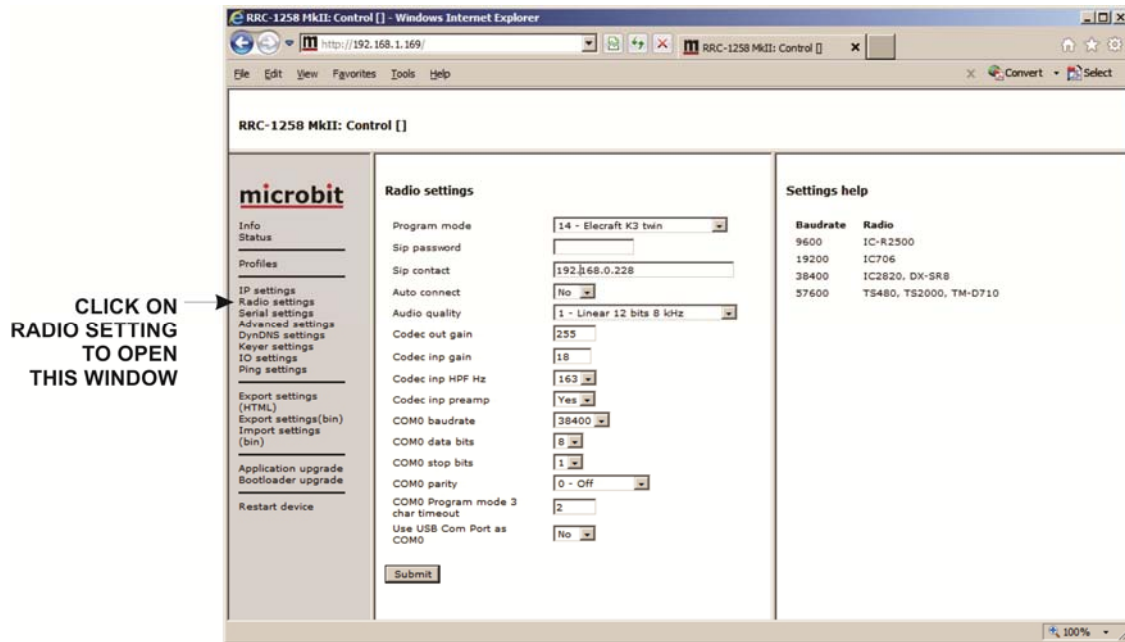

Figure 9
- Open your computer browser and enter the I.P. address of the RRC-1258 unit on the browser's address bar to open the Microbit program window shown in Figure 9. Unless you changed it in step five, the I.P. address is **192.168.1.169**. Click on Radio in the left menu to open the screen shown.